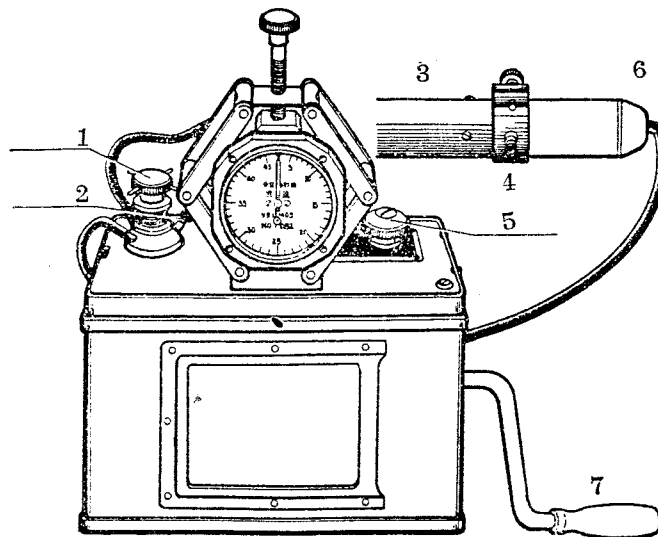

Fig. 3-4 Connection Diagram for Checking Pitot System Air Tightness
(1) Check the pitot system.
A. Set the operation selector switch of the tester to "PRESSURE", close the air source cock and equalizer cock, connect the rubber hose to the pitot pressure nipple of air speed indicator and to the pitot hole of pitot tube respectively as shown in Fig. 3-4
(2) Check the static system.
A. Set the operation selector switch of the tester to "VACUUM", close the air source cock and equalizer cock, connect the rubber hose to the static pressure nipple of air speed indicator and to the circular joint of the pitot-tube static hole respectively as shown in Fig. 3-4.